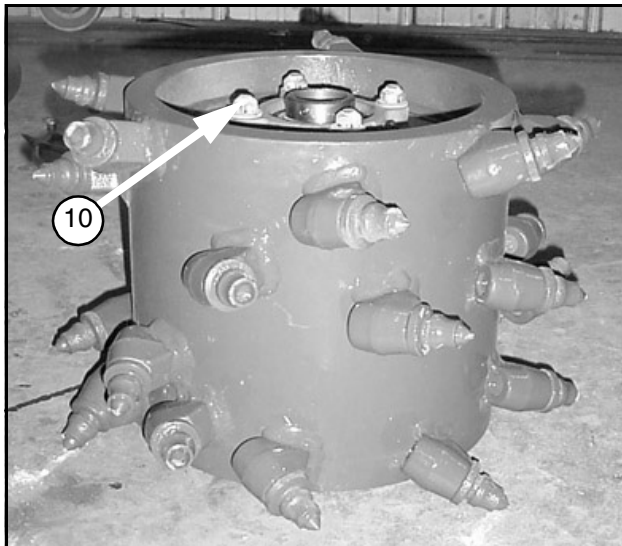

Figure 22.
15. Turn the drum over to its other side, as shown in Figure 22.
16. Remove the 4 nuts (10) that secure bearing to the drum. The studs may back out of the drum when attempting to remove these nuts. This is common and will not effect the operation of the planer upon reassembly.